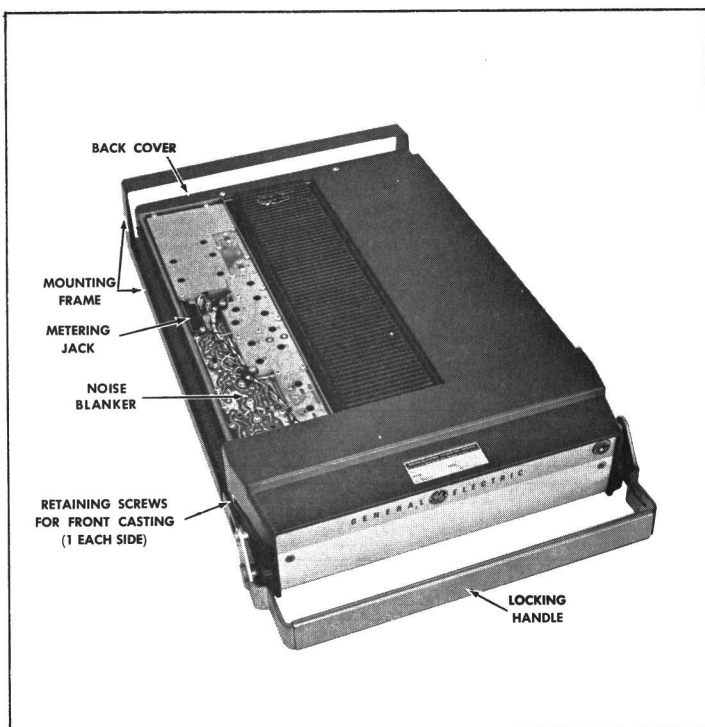

Figure 3 - Removing Top Cover
1. Loosen the two Phillips-head retaining screws in front casting (see Figure 3), and pull casting away from system frame.